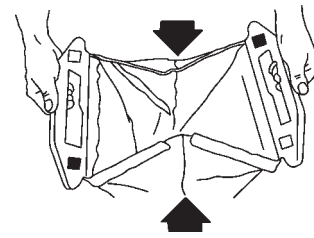

Figure 40
15. Close the rear of the bag by folding the sides in and pressing the interlocking rear handle halves together (Fig. 40).